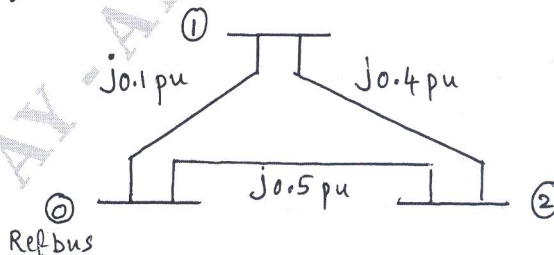

Fig.Q10(a)
- 10 a. Obtain Z_{bus} by Z_{build} technique for the system shown in Fig.Q10(a). All values are in pu (impedance). Take bus '0' as reference bus. Add the elements in the order ref bus to bus 1, ref bus to bus-2 and lastly bus 1 to bus 2.